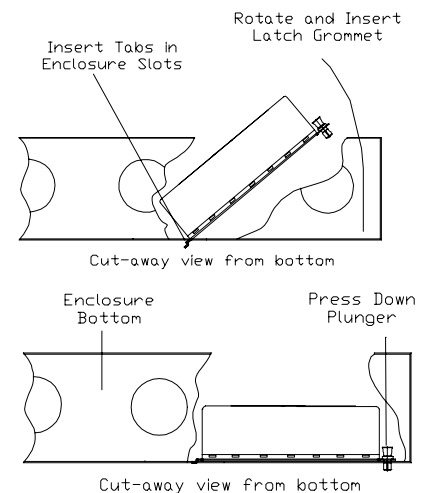

Figure 2
- A. Mounting in enclosure (see **Figure 2**)